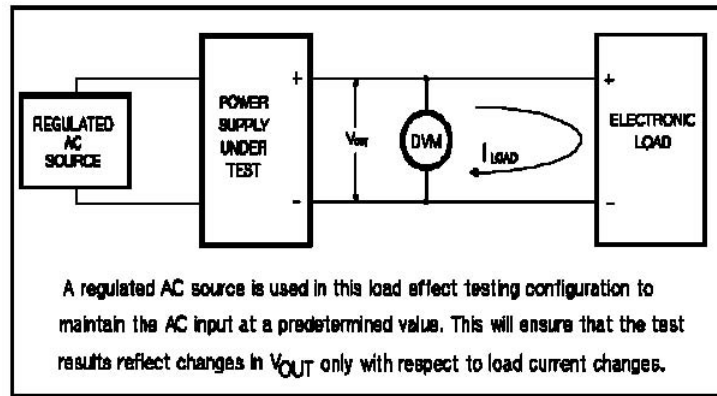

Figure 1-8 Basic Test Setup
- 1 Connect the test equipment across the output of the V1 supply as shown in **Figure 1-8**. Operate the electronic load in constant current mode and set its current to 1.000 A. Input off the electronic load.
- 4 Operate the electronic load in open (input off) mode and recheck the DVM indication immediately. The readings' difference during the immediate change should be within 0.01% plus 2 mV of the reading in step (3).
- 5 Repeat steps (1) through (4) for the V2 supply.
- 2 Connect the test equipment across the output of the V1 supply as shown in Figure 1-8. Operate the electronic load in constant current mode and set its current to 1.000 A. Input off the electronic load.
- 1 Connect the test equipment across the output of the V1 supply as shown in Figure 1-8, but replace the DVM with the oscilloscope. Operate the electronic load in constant current mode.
- 1 Connect the test equipment across the output of the V1 supply as shown in **Figure 1-8**.
- 6 The output voltage reading should deviate less than 0.1% plus 5 mV from the reading obtained in step (5) over a period of 8 hours.
- 7 Repeat steps (1) through (6) for the V2 supply.